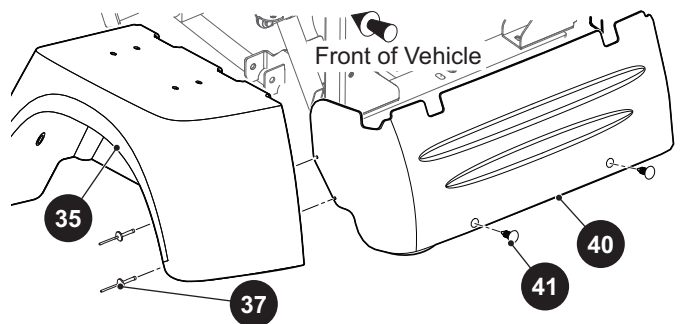

Figure 11 Rear Body Panel Replacement
Remove two rivets (37) from each side securing the rear body panel (40) to the rear fenders (35, 36) on each side (Figure 11).